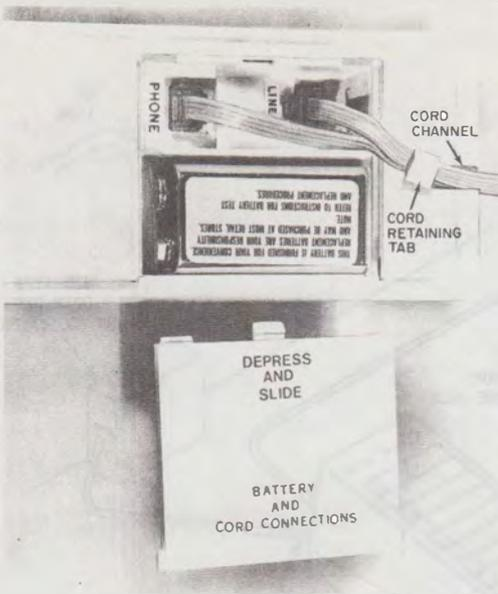

Fig. 2—Location of Battery and Cords
3.03 This adjunct dial is shipped with a 9-volt alkaline battery which is to be connected at the time of installation. Remove the battery cover located on bottom side of dial and make the necessary connection (Fig. 2). The battery should last a year under normal telephone usage.
3.05 Dress the two (2) cords flatwise in the cord channel under the cord retaining tab and replace the battery cover (Fig. 2).